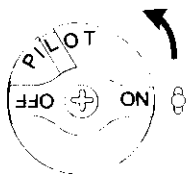

Figure 3
4. After pilot remains lit, rotate knob counterclockwise to ON position. See Figure 3.